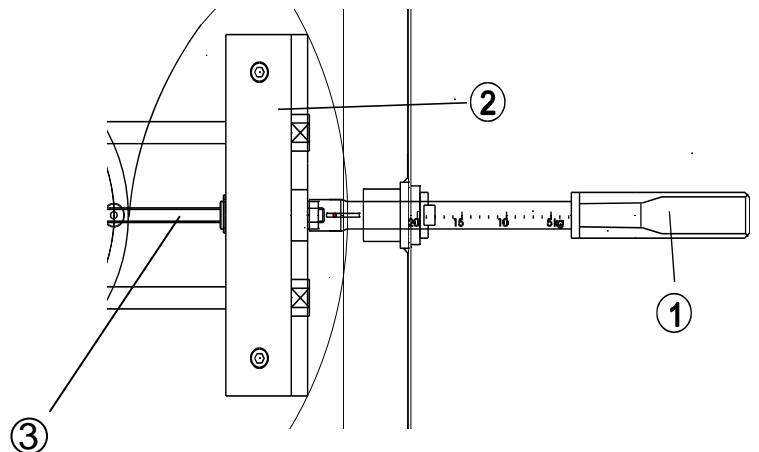

Fig. 9:: Adjustment of the counter weight corresponding to the load
5. Block the drive of the shaking table by putting the delivered hexagon socket screw key through the boring of the shaking table (Fig. 9 and 10, pos. 4). Carefully turn the shaking table until the drive has totally blocked.